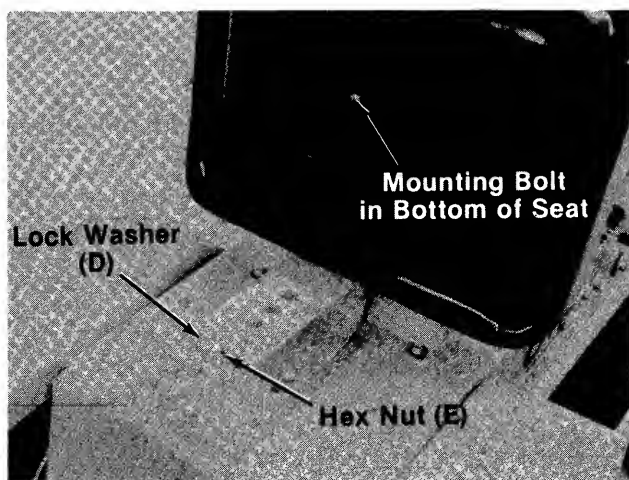

FIGURE 6.
- Secure the seat in position on seat spring with lock washer (D) and hex nut (E). See figure 6.